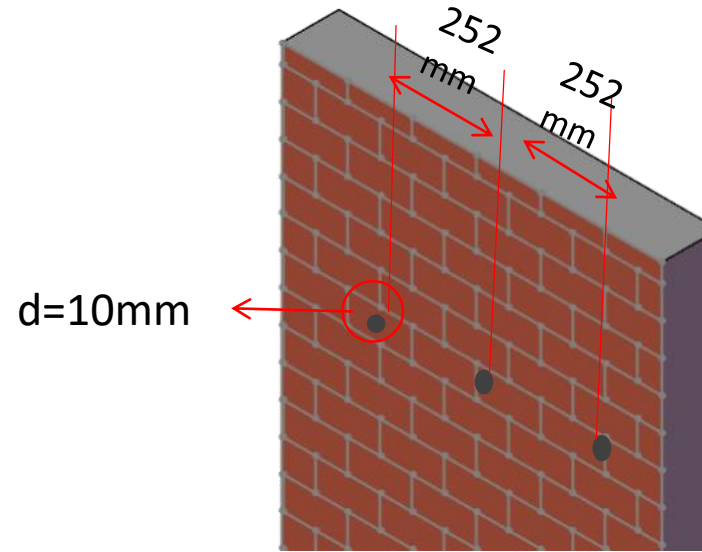

fig 5.7
- ① Drill 3 $\varnothing 10$ holes on the wall and leave 252mm distance between holes. Please refer to fig 5.7.